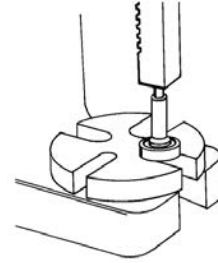

Figure 16
- Using an arbor press, press the old bearings off the shaft (See Fig. 16). Because the center portion of the shaft has a thicker diameter than the ends, the bearings must be pressed off each end of the shaft.
2. Place assembly into slot of arbor press table, threaded end up (See Figure 16). Press out shaft.